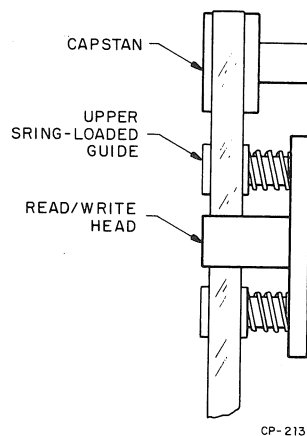

Figure 5-51 Location of Upper Spring-Loaded Guide on Capstan
- b. While tape is running forward, move upper spring-loaded guide (Figure 5-51) away from tape. Skew jitter must not increase more than $2 \mu s$ (take care not to touch tape).